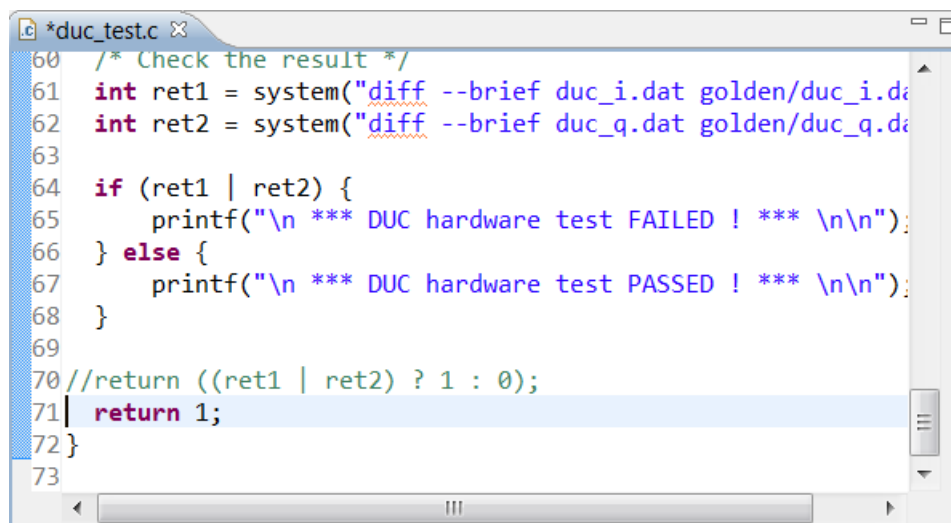

Figure 8-7: Modified RTL Test Bench
3. Scroll to the end of the file to see the code shown in Figure 8-7.
4. Edit the return statement to match Figure 8-7 and ensure the test bench always returns the value 1.